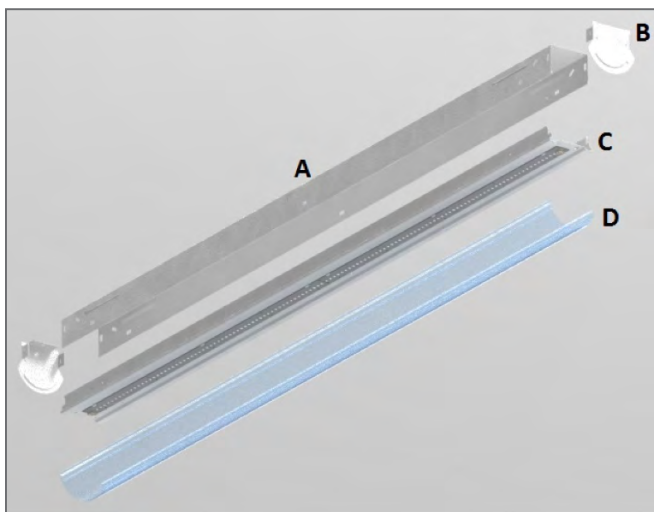
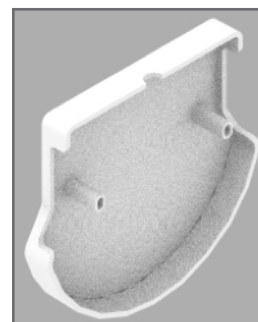
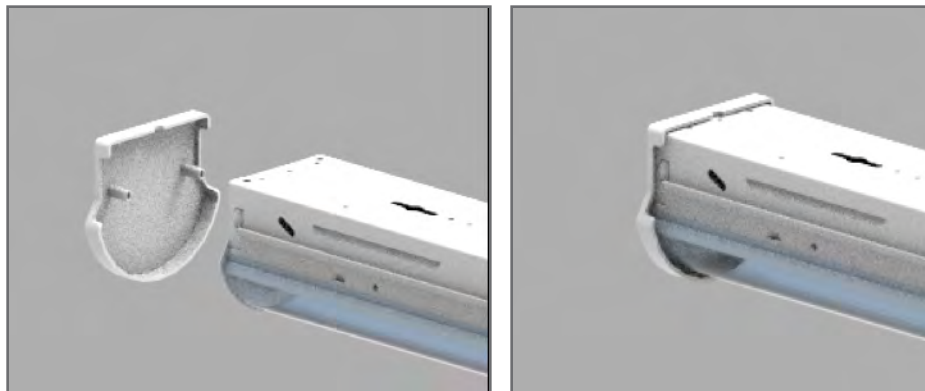

FIGURE 1
FIGURE 2
FIGURE 7
Refer to Figure 1 and Figure 2 for identification of the parts referenced in this guide.
2. Snap the Injection Molded ABS Endcap (Figure 2) into place over the metal end caps as shown in Figure 7.